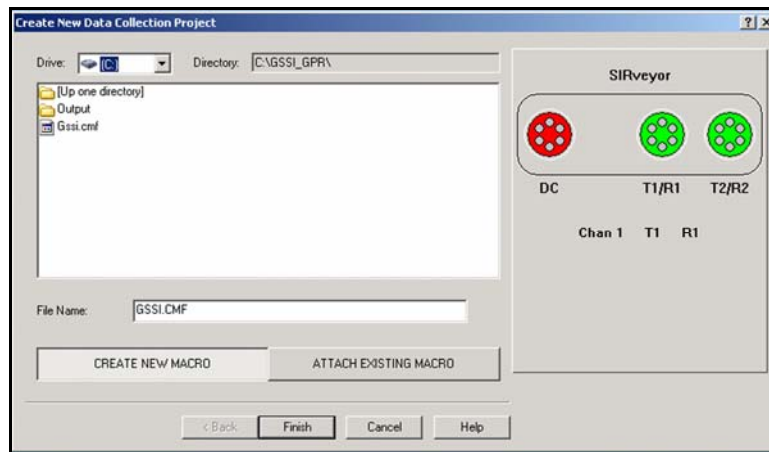

Figure 15: Attach a Macro or Create a New One.
- 6** This screen enables you to select/change your data acquisition parameters. For most applications the default settings are adequate. To access settings for different applications click the small arrow in the Config Type (1) option.
- For example if you are scanning a concrete slab to find reinforcing bars, choose CONCRETE. Then choose your antenna type under Config Name (2). An “X” after the configuration name is used to denote use of an antenna that has its dipoles oriented perpendicular to the normal survey direction. Common data collection parameters will be automatically set.
- 7** Check to make sure that Scans/ft (7) is adequate for your application. Generally, the more scans per unit that you collect, the slower your collection speed, the larger your data file and the more “stretched” your file will appear. When you are finished, click Next >.
- 8** The next window (Figure 15) will ask you to either create a new macro, or attach one that you have already created. A macro is nothing more than a saved list of data collection parameters. These parameters include: filters, time range and gain settings. These parameters will vary from job to job, so it is possible that you will have many different macros for different survey objectives. Common parameters for your antenna will be selected automatically based on the Config Type and Config Name that you chose in Step 6.